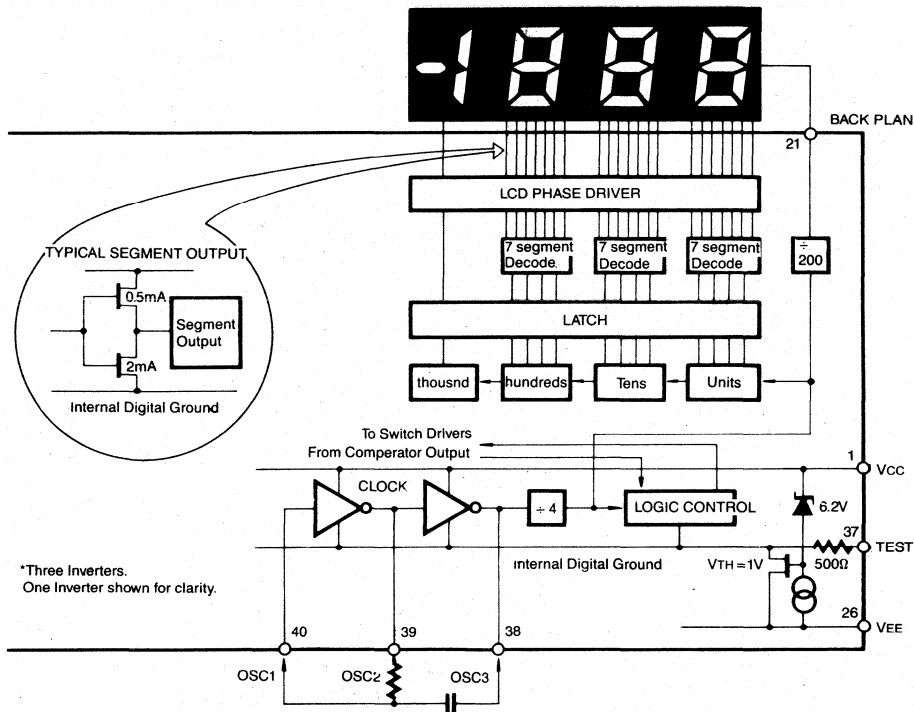

Fig. 7: Digital Section
Fig. 7 shows the digital section for the KS7126. An internal digital ground is generated from a 6 volt zener diode and a large P channel source follower. This supply is made stiff to absorb the relative large capacitive current when the back plane (BP) voltage is switched. The BP frequency is the clock frequency divided by 800. For three readings/second this is a 60Hz square wave with a nominal amplitude of 5 volts. The segments are driven at the same frequency and amplitude and are in phase with BP when OFF, but out of phase when ON. In all cases negligible DC voltage exists across the segments. The polarity indication is "ON" for negative analog inputs. If IN- and IN+ are reversed, this indication can be reversed also, if desired.